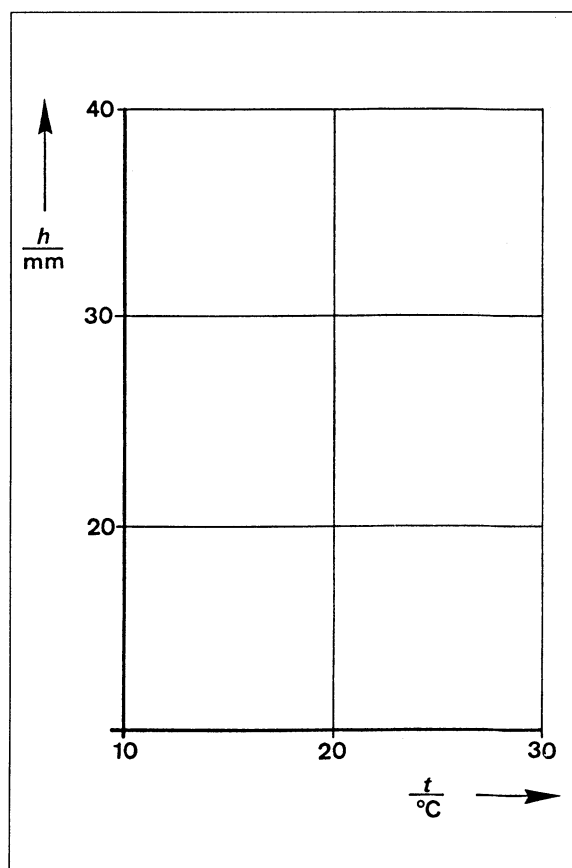

Fig. 2 Diagram showing volume as a function of temperature.
- Copy the measured values onto the diagram. Fig. 2.